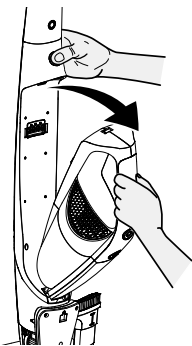

Fig.13
- To remove the handheld vacuum cleaner, press the release button and detach from the main body (Fig.13).